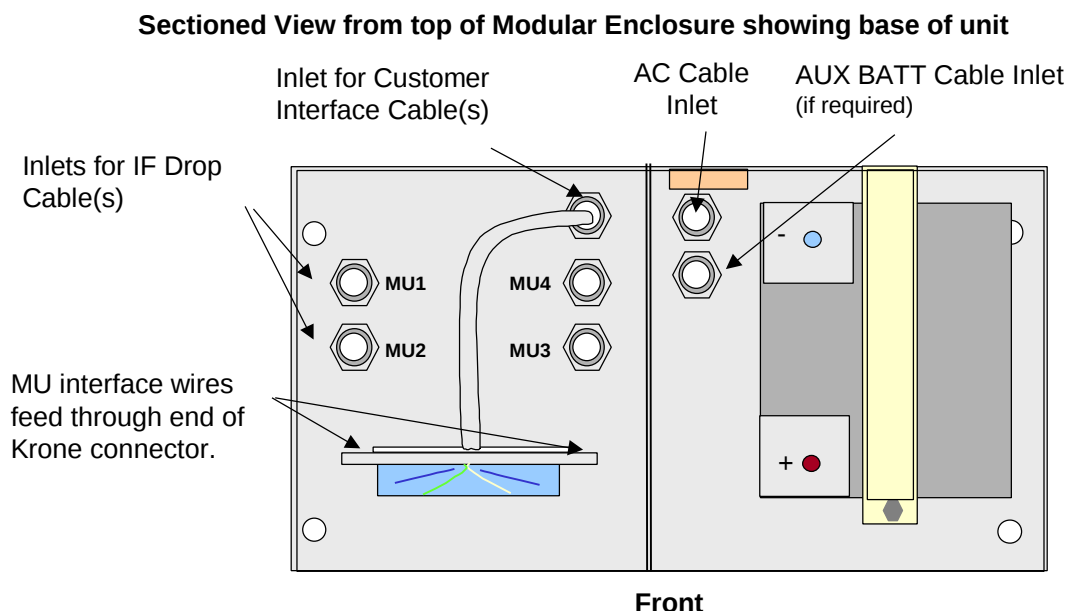

Figure 58. External cable connections to the Modular Enclosure
1. Bring the drop cables through the cable entry glands at the base of the unit. See Figure 58.